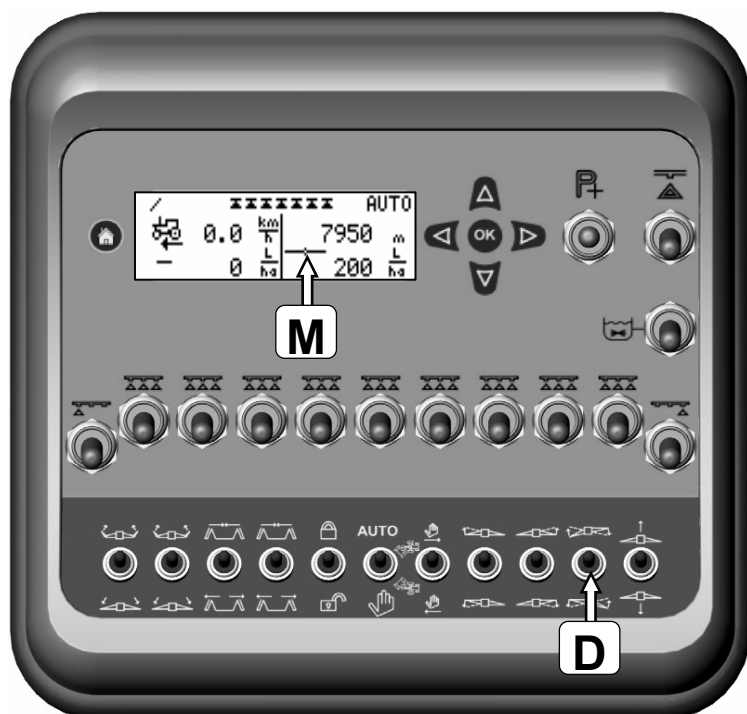

Fig. 6
For a correct display of the symbol (M) (fig. 6) of the *hydraulic hillside correction*, the appropriate sensor must be calibrated correctly.
- Bring the hydraulic hillside correction to the middle position by activating switch **(D)** on the control unit (fig. 6).
- The sign **(M)** for the position of the hydraulic hillside correction on the display must be no exactly in the middle at the display of the control unit (fig. 6) If not, another calibration of the middle position of the hydraulic hillside correction is necessary.